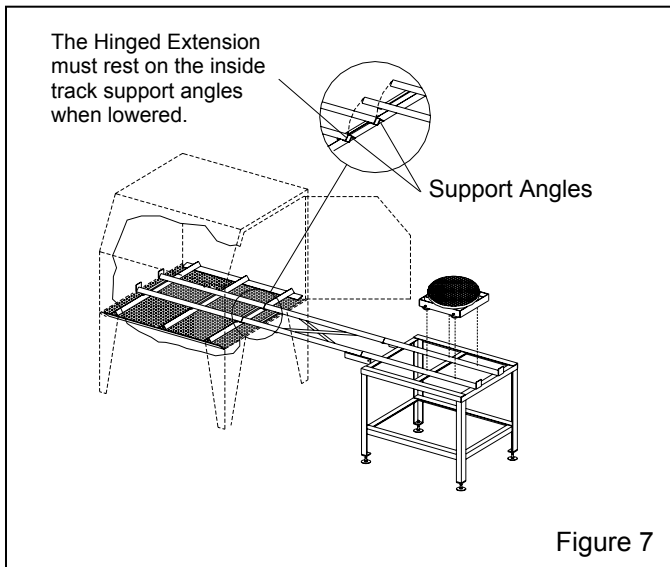

Figure 7
3.4.3 Position the track support table and extension as shown in Figure 7. When the hinged extension is lowered, the extension tracks must rest on the angled locating supports welded to the bottom of the inside tracks, and butt against the inside tracks.